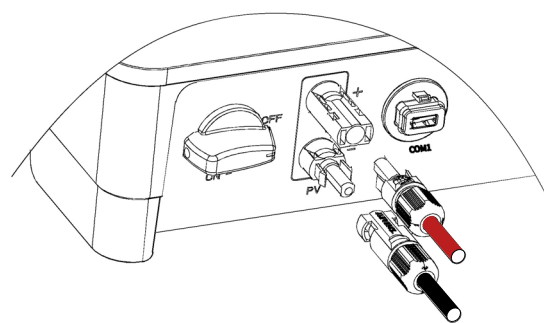
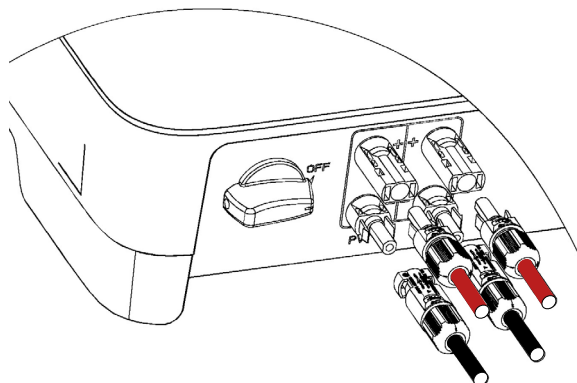

Fig. 25. Connecting the DC input terminals of units with 1 MPPT.
Fig. 26. Connecting the DC input terminals of units with 2 MPPTs.
4. Insert the positive and negative connectors into the respective DC input terminals of the inverter. If the terminals are properly connected, they will make a clicking sound, as shown in Fig. 25 and Fig. 26: